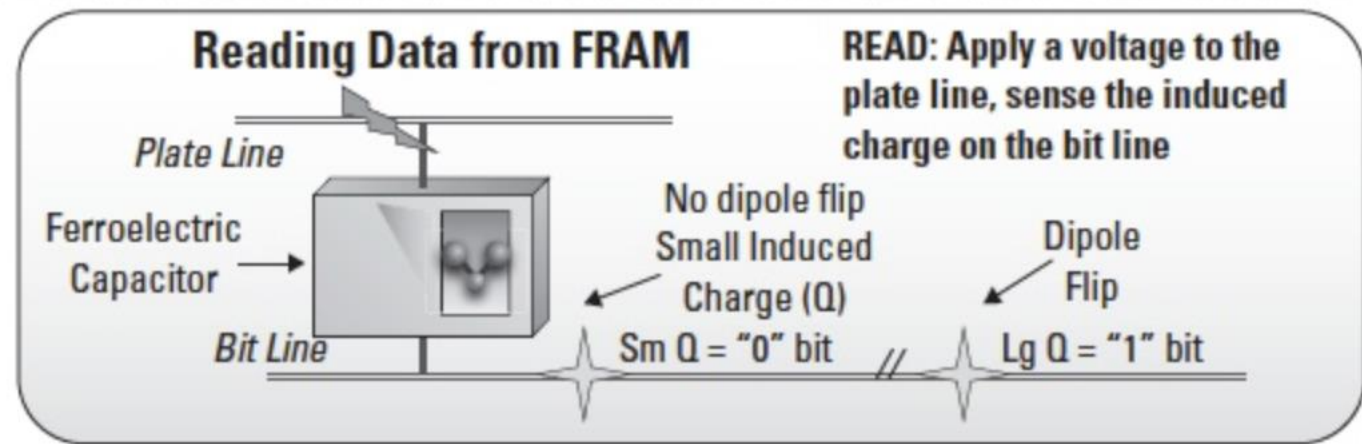

Figure 2-10. Reading a FRAM cell
- To read the data from a FRAM memory cell, a voltage is applied to the plate line; the key here is that you are **potentially changing the state in order to perform a read, FRAM always requires a memory state refresh after a read.** the voltage causes dipoles to align. If the voltage is high, then a large induced charge is sensed on the bit line. If the voltage is low, then a small induced charge is sensed on the bit line. So, in reading the data from an FRAM cell, a small induced charge is a 0 bit and a large induced charge is a 1 bit (see Figure 2-10).